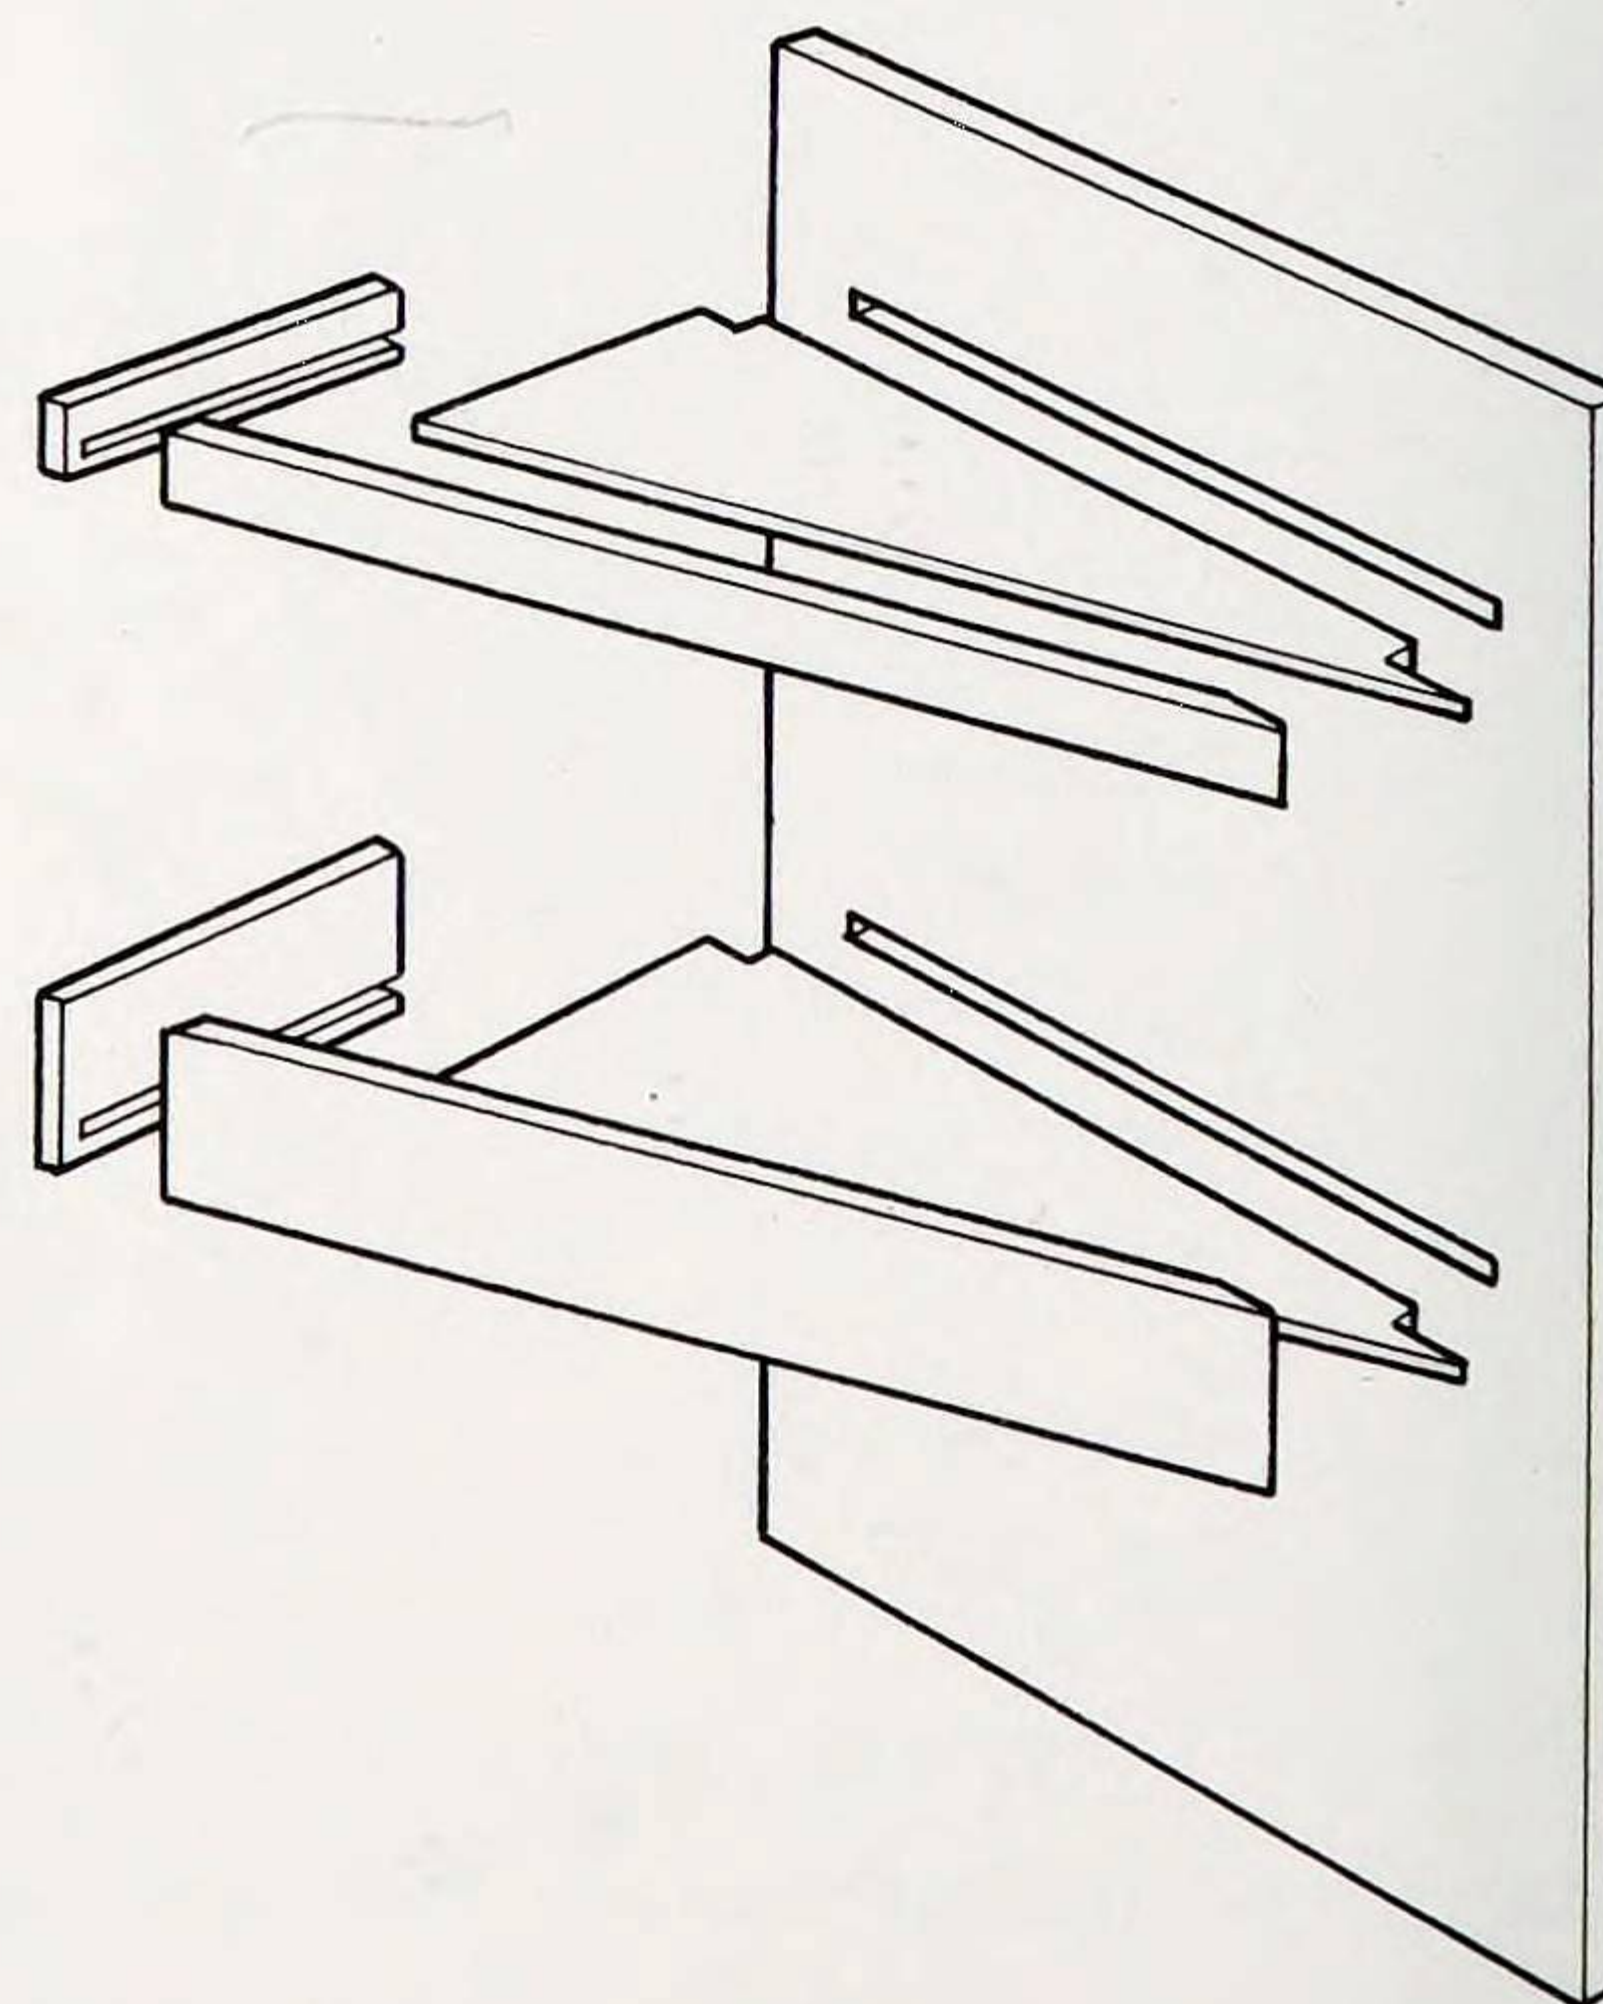

Fig. 6 Fitting the shelves onto the doors
9. With the door hinged in place, make the four shelves (two for each door) and after checking the clearance, fit them in place (Fig. 6). The whole piece can now be smoothed, finished and the castors or wheels added.